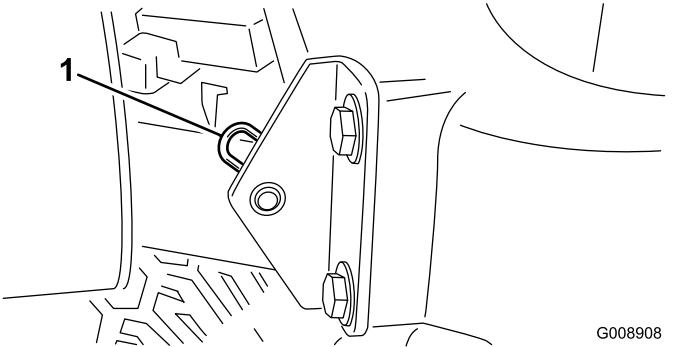

Figure 43
2. Remove the hairpin cotter securing the hood pivot to the mounting brackets (Figure 43).